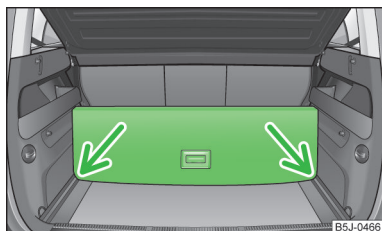

Fig. 68
- › Lift up the part of the loading floor with the grip and secure it by sliding it into the grooves marked with the arrows » Fig. 68.